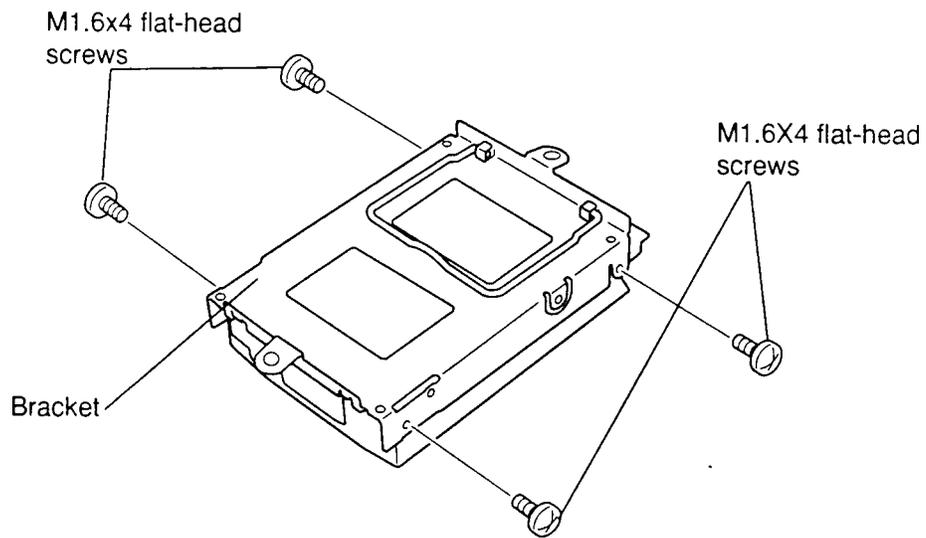

Figure 4-7 Removing the HDD
6. Remove the **four flat-head M1.6x4 silver screws** securing the **bracket** to the HDD and slip off the **bracket** (Figure 4-7).
1. Secure the bracket with the **four flat-head M1.6x4 silver screws** (Figure 4-7).